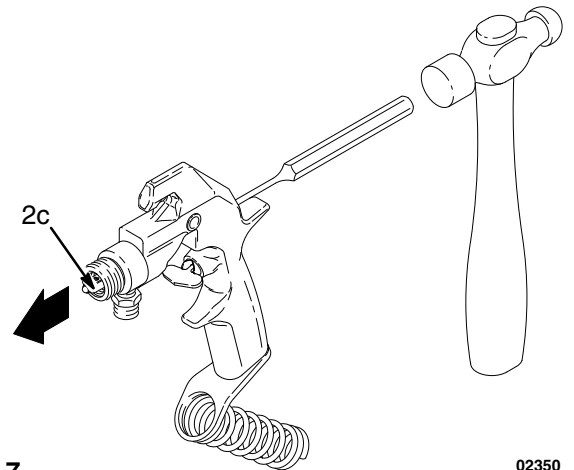

Fig. 7
4. Insert a punch into the rear of the gun and tap it to push the needle (2c\*) out the front of the gun. See Fig. 7.